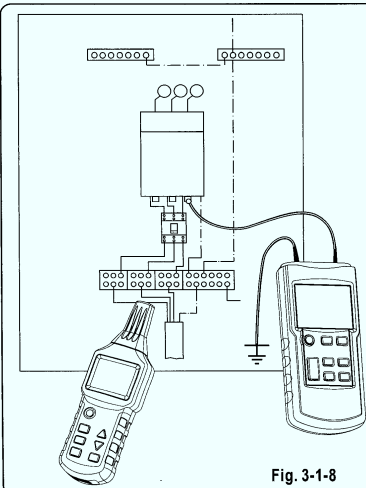

Fig. 3-1-8
- 3) Connect the transmitter in a way shown in Fig.3-1-8.